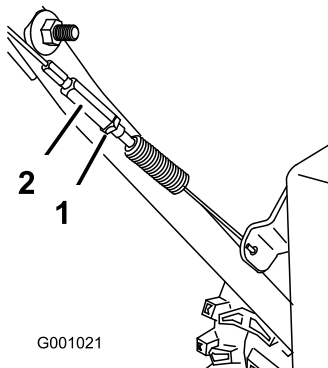

Figure 24
3. Tighten the jam nut (Figure 24).